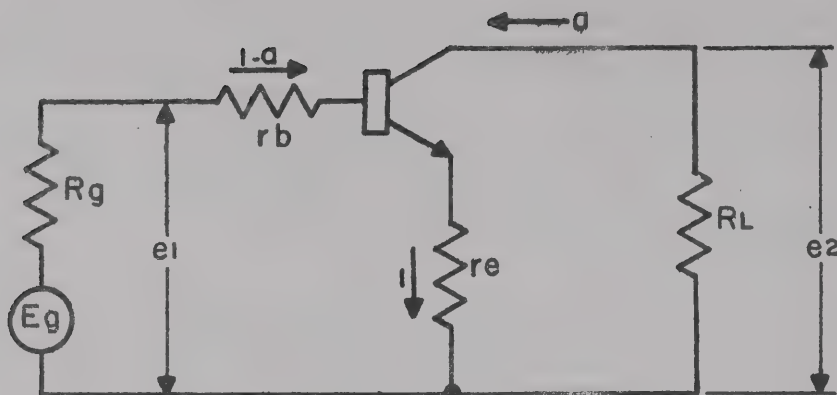

Figure 2.
4. Figure 2 shows a "model transistor" connected as a common emitter amplifier. This model transistor amplifier neglects the effects of r_c , the ohmic resistance of the collector junction. From this figure the input resistance is seen to be